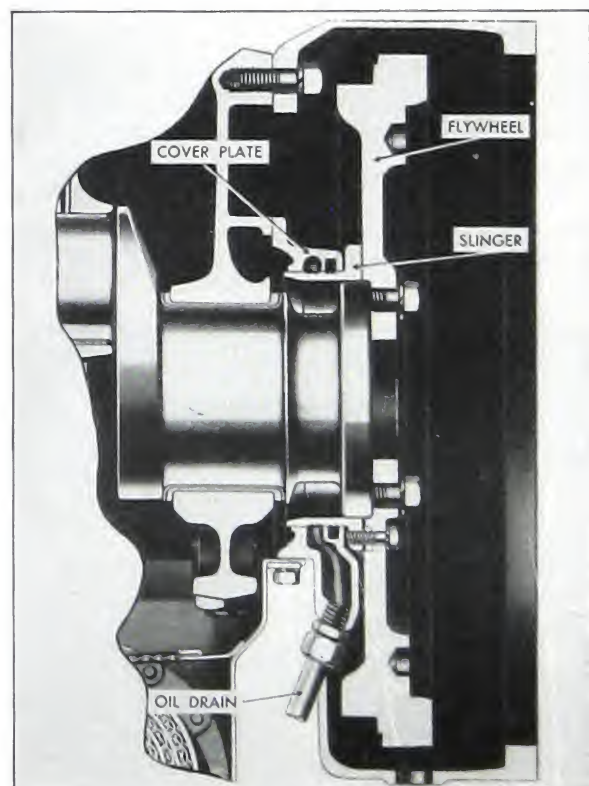

Fig. 2-58. Labyrinth type oil seal
3. The oil slinger of the labyrinth-type seal is to be attached loosely to the flywheel and tightened after the flywheel and the slinger are assembled over the crankshaft end flange. As will be seen from the cross section, Fig. 2-58, the cap screws used to mount the slinger to the flywheel must not be too long. Cap screws that are too long will rub against the cover plate and damage it.